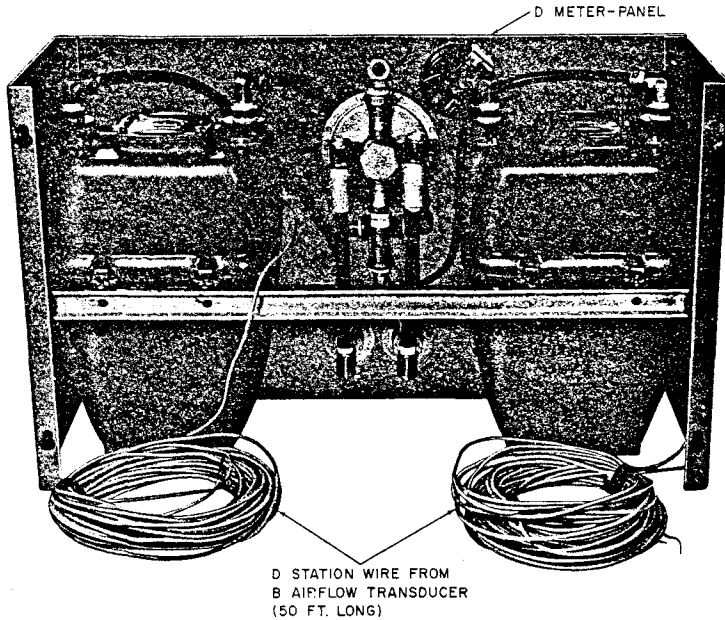

Fig. 9—D Meter-Panel—Rear View
5.09 For *D meter-panel installations*, connect the D station wire from the B airflow transducer to the assigned terminals of a 66M1-50 connecting block or equivalent, which is associated with CPMS (Fig. 9).